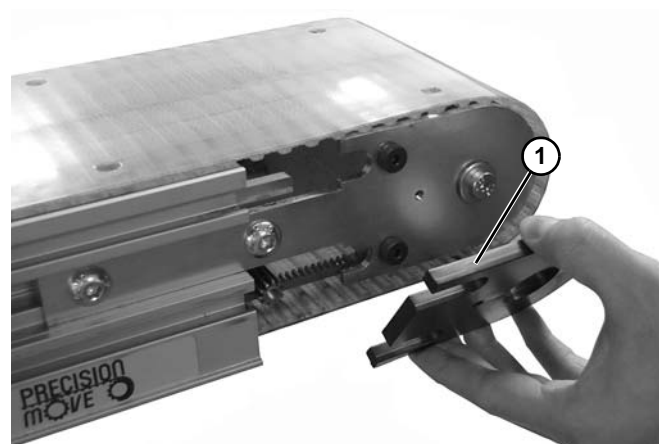

Figure 34
8. Remove bearing housing (**Figure 34, item 1**).